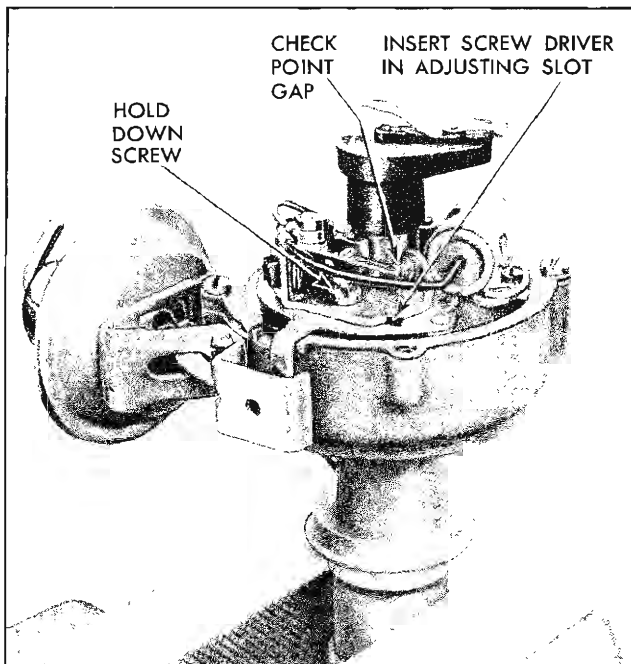

Fig. 11-38 Adjusting Points
3. Loosen adjusting screw slightly (Fig. 11-38). With screwdriver in slot and feeler gauge between breaker points, slowly adjust to .019".